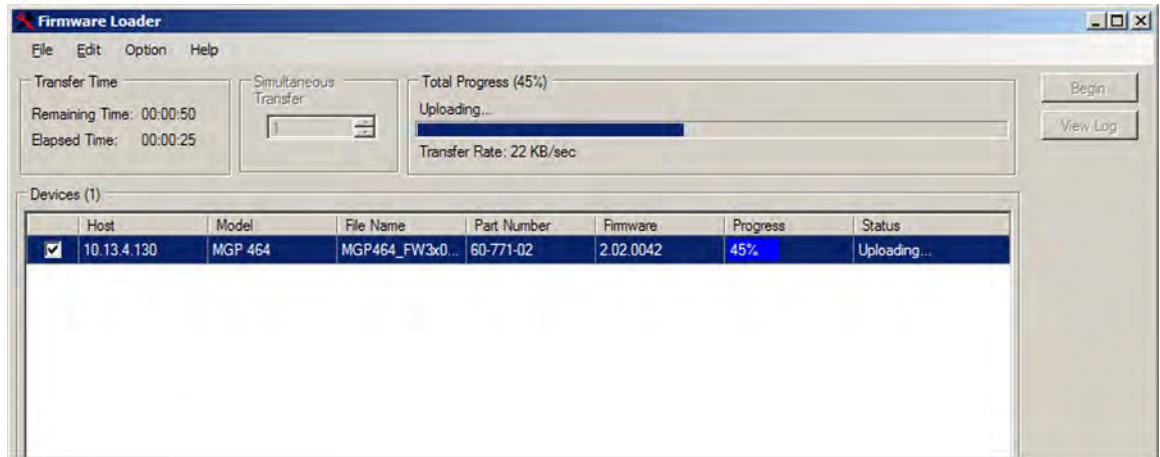

Figure 60. Firmware Upload in Progress
10. Click **Begin**. The following indicators show the progress of the update (see figure 60):